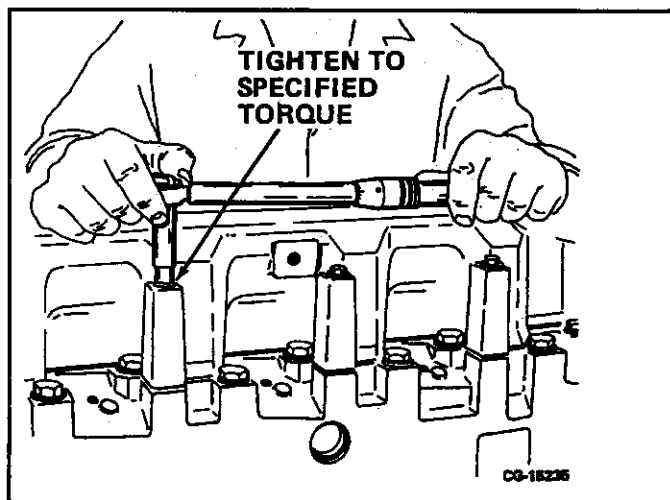

FIGURE 7-65
1. Install gasket onto the cylinder head and align valve cover/intake manifold cover and gasket. Tighten valve cover/intake manifold mounting bolts to specified torque. See "Special Torque Values." Refer to **FIGURE 7-65**.